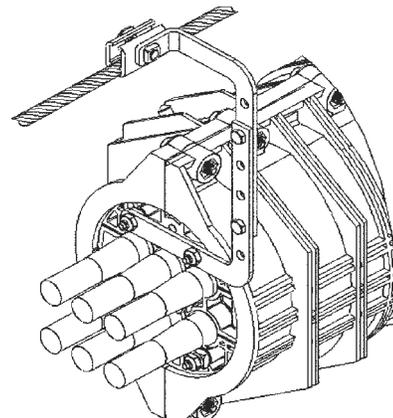

FIGURE 53 - SECURE CLOSURE TO STRAND
17.06 After attaching hanger brackets to end plates, secure Closure to strand with Aerial Suspension Clamps. (Figure 53)